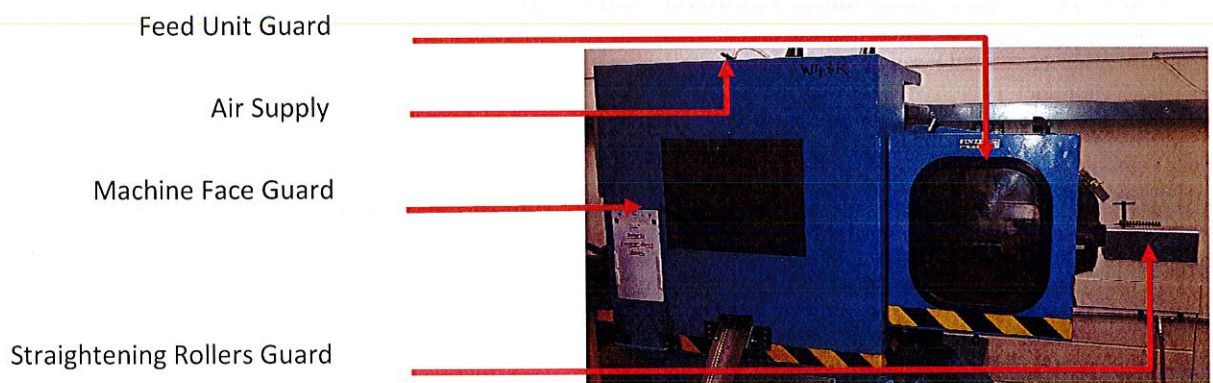

Figure 1: Machine Guarding
- Engage the motor by pressing both the buttons on the MCP. **Press the top button first. (see fig 1)**